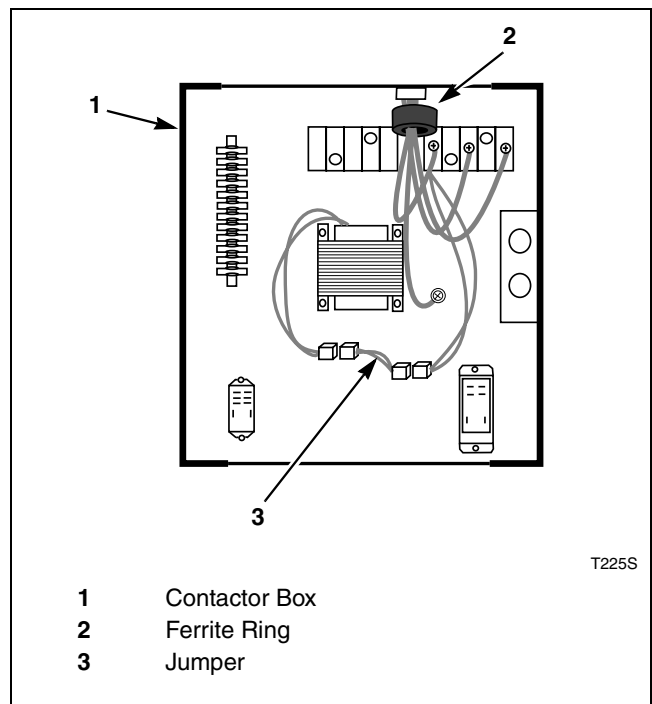

Figure 19
2. Snap the ferrite ring closed over all the service leads inside of the contactor box as shown. It is important that the ferrite ring be installed inside the contactor box. Refer to *Figure 19*. Do not install the ferrite outside of the box or other area. Make sure that service leads are in the center of the ferrite before closing the ring so not to pinch or damage leads.